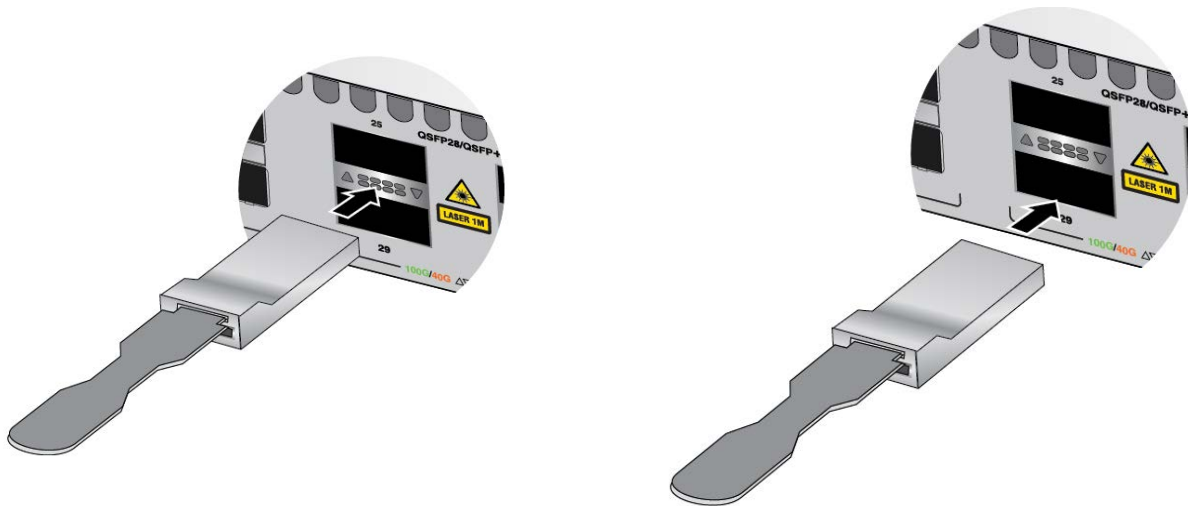

Figure 134. Installing 100G QSFP28 Transceivers in Base Ports 25, 29, 33, 37
- ❑ 100G QSFP28 transceivers for ports 25 to 37: refer to Figure 134.